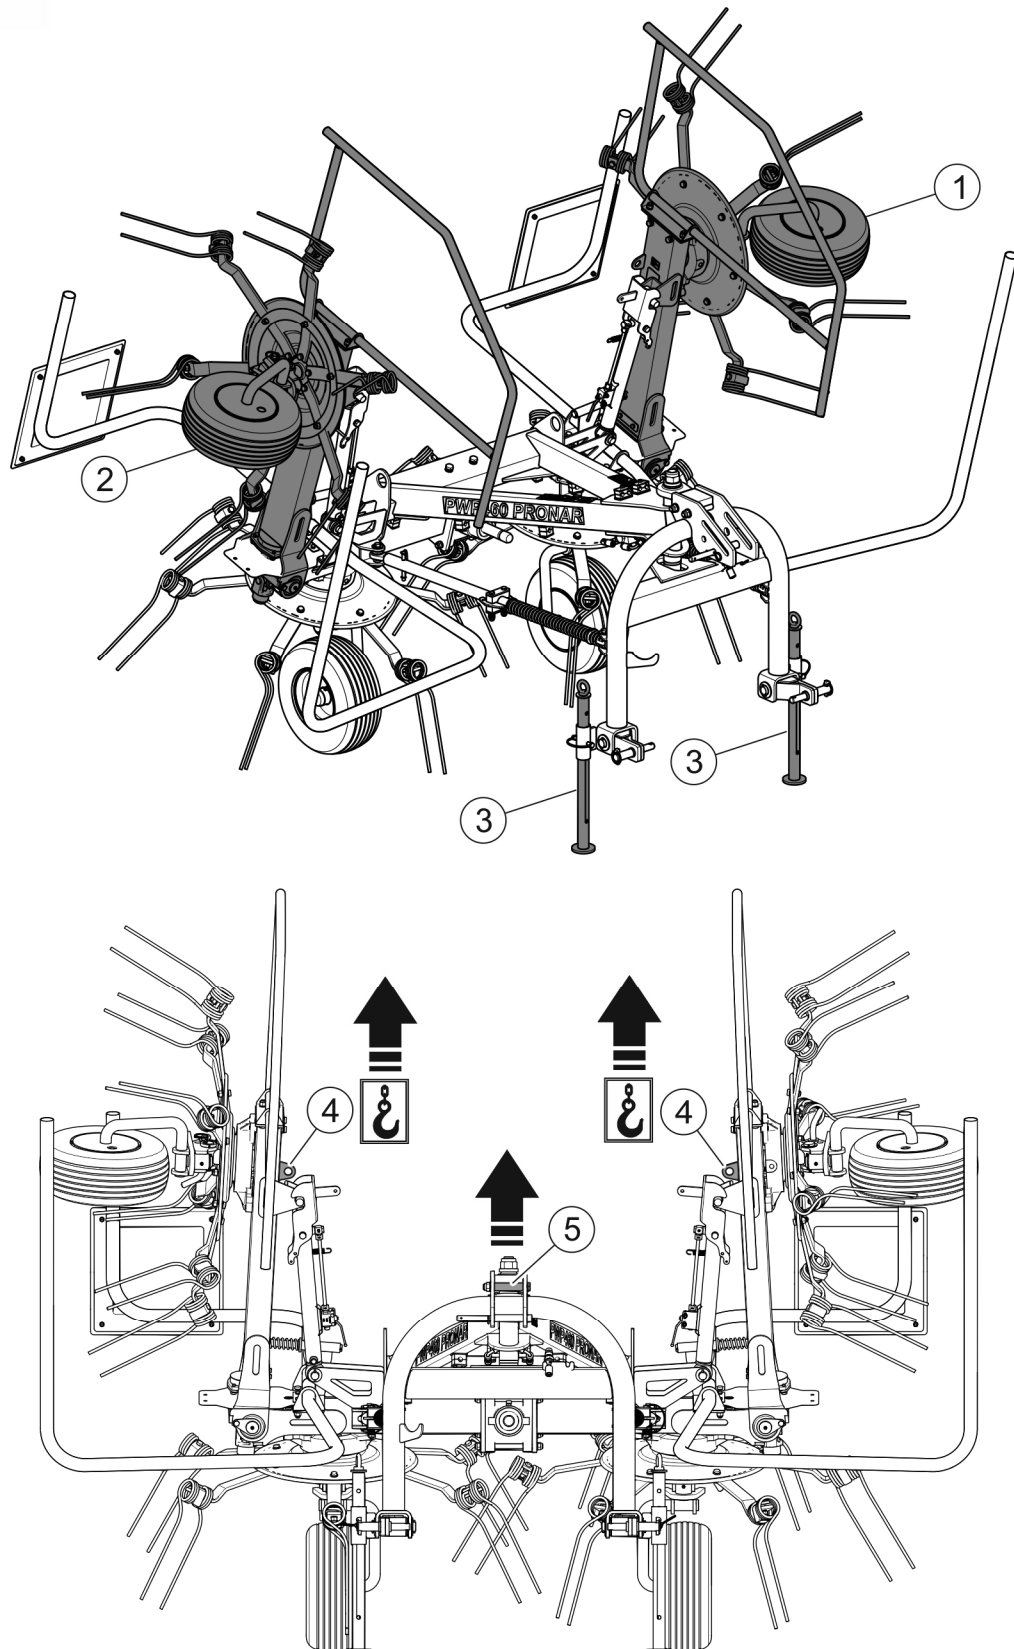

FIGURE 1.2 Transport position and points of attachment of the rotary tedder during loading.
The tedder should be attached to the lifting equipment in places designed for this purpose (FIGURE 1.2), i.e. to the transport eyes (4) and to the central connector pin (5). The fastening points are marked with an information sticker. It is recommended that for the time of moving and transporting the tedder is set to the transport position, i.e. the right (1) and left (2) tedder module should be lifted up, and the supports (3) lowered downwards. (see "CHAPTER 4.3: TRANSPORT RUN "). In the event that ropes or belts of reloading devices can catch on protruding parts of the machine placed in the transport position, they must also be dismantled. When lifting the tedder, be especially careful due to the possibility of tilting the machine and the risk of injuries from protruding parts of the machine.
During loading, the rotary tedder should be set in the transport position. (FIGURE 1.2)